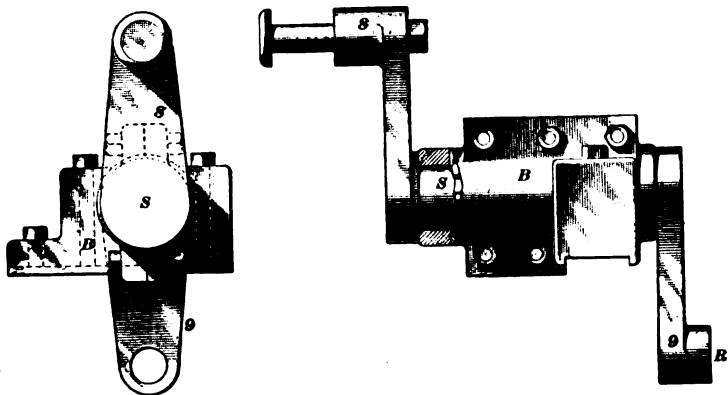

FIG. 34.
37. The slide valves of a locomotive are usually placed on the top of the cylinders, while the eccentrics are placed below the boiler between the frames, so that it is impossible to obtain a straight connection between the eccentric rods and the valve stem. The connection is therefore made by means of a **rocker**, Fig. 34, having two arms called **rocker-arms**, attached to a short shaft called a **rocker-shaft**. In the figure, 8 is the upper, and 9 the lower, rocker-arm; *S* is the rocker-shaft, and *B* the rocker-box. The rocker as a whole is held in position by the rocker-box, but the rocker-shaft is free to turn in the box. The valve stem is connected, by means of the valve rod, to the upper rocker-arm at *V*, while the end *R* of the lower arm connects with the link block; hence, any movement given to the end *R* of the lower arm by the eccentrics will be transmitted to *V* of the upper arm, but the direction of motion will be reversed. For instance, while the eccentrics are causing the